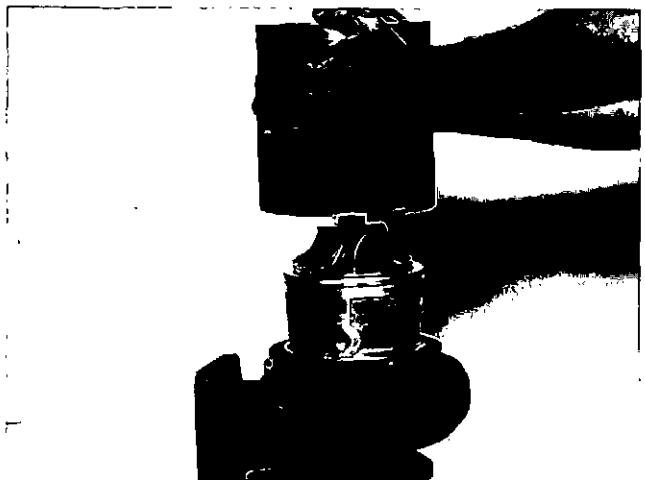

Fig. 4-4, (T465056). Place the turbocharger sleeve into position
5. Put a special sleeve over the compressor wheel (13) and against the turbine housing (10), Fig. 4-4.